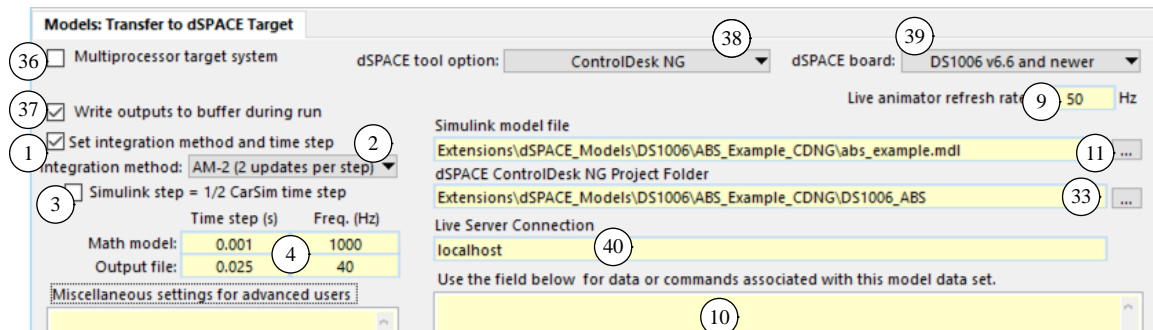

Figure 35. The top part of the Models: Transfer to dSPACE Target screen.
The choice is selected with a checkbox on the **Models: Transfer to dSPACE Target** screen ⑰ (Figure 35, page 31).
Figure 35 shows the top part of the **Models: Transfer to dSPACE Target** screen with the controls numbered for compatibility with earlier sections. Controls for specifying the numerical integration options, the datasets for Import and Export variables, and VS commands are the same as with other screens.